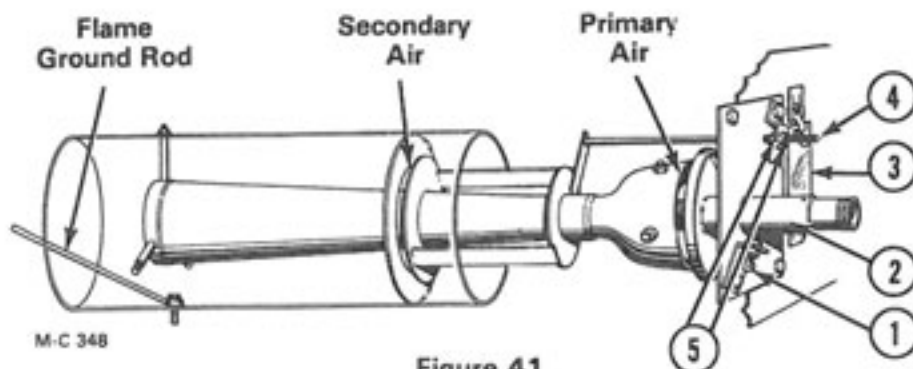

Figure 41
bolt (1) and turning the primary air adjuster pipe (2) clockwise, see Figure 41 and 42, then open it $1\frac{1}{2}$ to 2 turns. See note.
Close the secondary air adjustment all the way by loosening locknuts (5) and pushing the secondary air adjustment rod (4) in all the way, see Figure 41 and 43, then pull the adjustment rod out approximately $\frac{1}{8}$ inch.
(See Figure 41 and 42)
Secondary Air (See Figure 41 and 43)